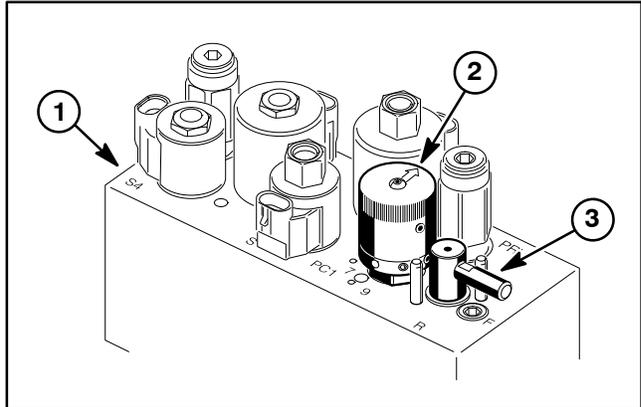

Figure 13
3. Locate the reel speed control and backlap lever on the hydraulic mow manifold (Fig. 13). Rotate the reel speed control to position "1" and the backlap lever to the R (backlap) position.